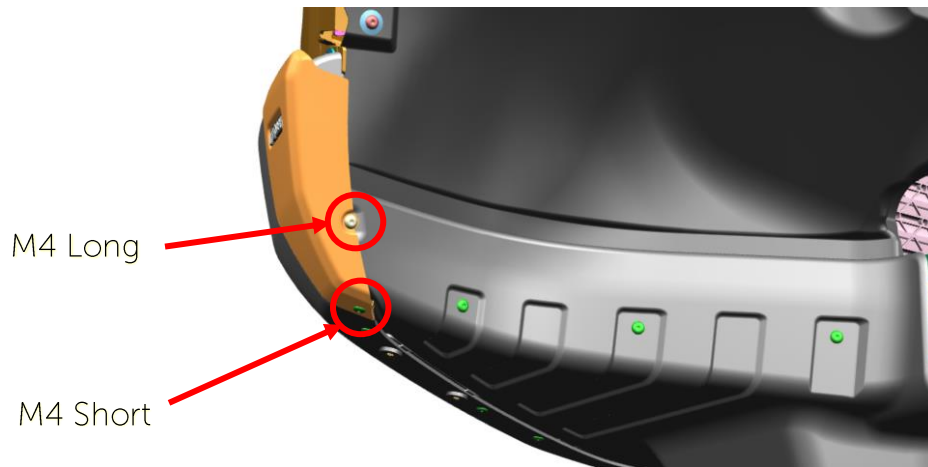

Figure 3 – Driver AEV Corner End Cap
- a. Using [1] M4 Bolt Long and [1] M4 Bolt Short (T15 Socket) 11611883/4 per side, install end cap through AEV Wheel Liner Closeout and bumper - Fig. 3